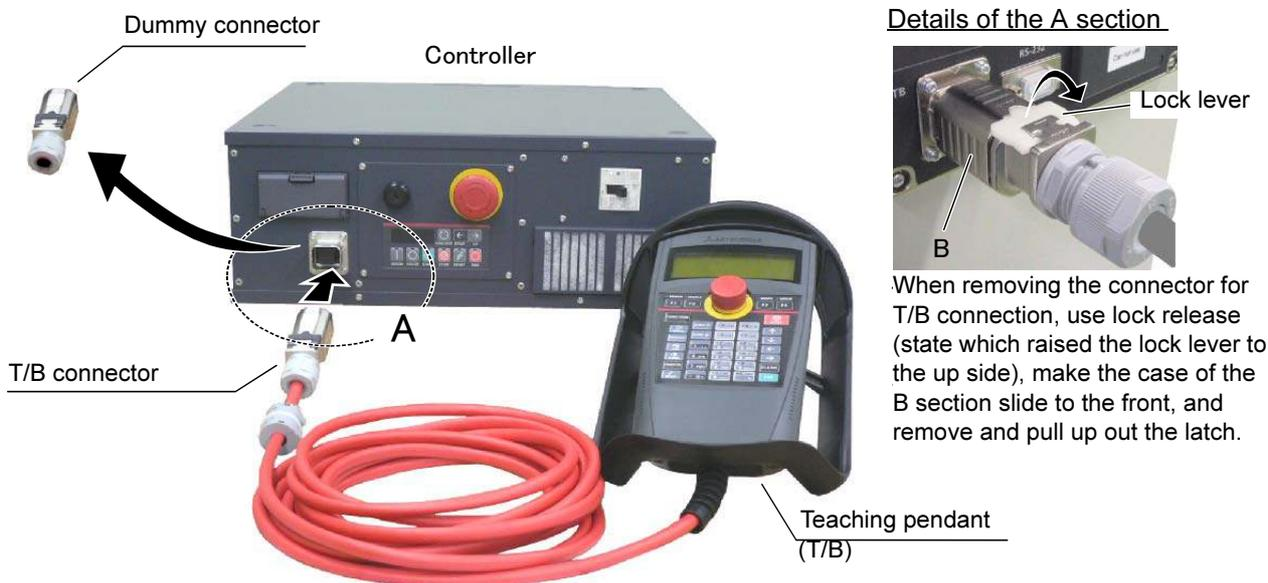

Fig.2-14 : Installing and removing the T/B (CR750 controller)
- 2) Connects T/B connector to the robot controller. Use as the upper surface the lock lever shown in Fig. 2-14, and push in until there is sound.